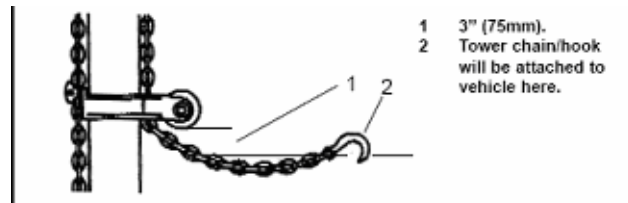

Figure 18
2. Support collar with one hand while loosening collar locking knob with opposite hand. Then position collar approximately three inches (75 mm) above desired pulling height and retighten collar locking knob. (see figure 18)